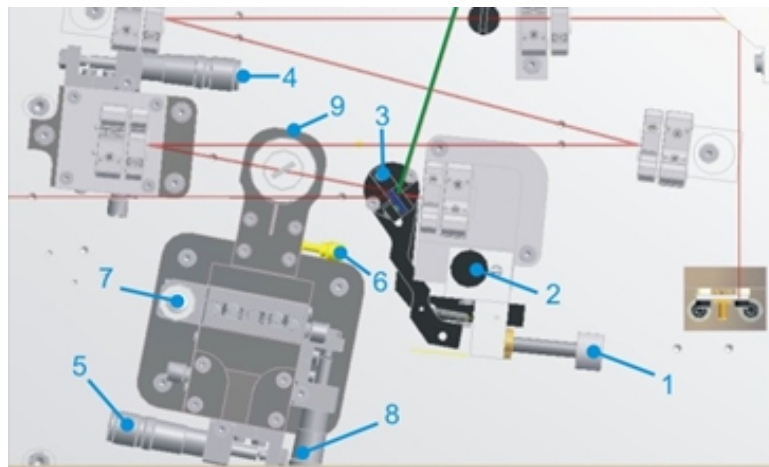

Figure B.2.: Adjustment elements (except mirror tilts) in the cavity dumper optics unit
1. At the beginning of the basic adjustment of the **Cavity Dumper Kit** the Bragg cell has to be driven 2 mm lower (7 in Figure B.2) and the position of CM2 (4 in Figure B.2) 0.5 mm further apart (smaller numbers) from CM1 than the position expected.
2. The horizontal X- and Y-position of the Bragg cell (controls 5 and 8 in Figure B.2) should be set to center the Bragg cell between CM1 and CM2. The distance between CM1 and CM2 (in case  $r = 100$  mirrors are used) is typically in the range between 102 and 106 mm (depending on your cavity design!) and the Bragg cell centered between both mirrors.
4. Lower CM6 (2 in Figure B.2) so that it does not clip the fluorescence.
8. Check the beam path inside the crystal with an IR viewer and correct the crystal horizontal Y-position (8 in Figure B.2) to center the beam (see B.3).
9. Slowly decrease the distance between CM1 and CM2 while translating CM2 with (4 in Figure B.2) towards the value given in the test protocol while maximizing the output power with CM5 until CW output power is about 100mW. Try to get the laser into mode-locked operation, check with a spectrometer. Mode-locked power is typically about 10 ... 30% higher than CW power. Adjust output coupler CM5 and the other end mirror for maximum mode-locked power. Slightly change CM2 position to look for the most stable mode-locking with good power. You may need to optimize the dispersion of the system.
3. Now adjust the vertical position of the modulator to have the beam at about 1/4 of the modulator height from the transducer. The transducer is located at the bottom of the modulator crystal. Use the vertical position adjustment screw (7 in Figure B.2).
4. While monitoring the aperture slide the crystal horizontally (Y-direction) about 2 mm in each direction from the center position of the beam (8 in Figure B.2) until a spot appears 2 ... 4 mm above the zero order spot. To make sure that this is the first order beam switch off the RF signal (RF ON button). Then the spot must disappear.
5. Switch on the RF signal again and adjust the horizontal modulator position and the Bragg angle by turns to roughly maximize the first order intensity by appearance. (Always readjust the cavity with CM5). **If no diffracted beam can be observed over the whole horizontal adjustment range, slightly change the Bragg angle (6 in Figure B.2) and repeat the above steps.**
7. The out-coupled beam (the first order diffraction on CM6) should be reflected to CM7. To adjust the horizontal tilt of CM6 use (1). Adjust CM7 and CM8 so that the deflected beam leaves the cavity dumper through the Brewster window BW.
8. Take a sheet of paper and monitor the output beam profile at a distance of about 1 m. Slightly adjust the horizontal X-position of the modulator (8 in Figure B.2) until only one round spot is to be seen (and not two spots one above each other).
9. Place a laser power meter into the deflected beam. To maximize the diffraction efficiency the horizontal (8) and vertical (7) crystal position must be adjusted by turns, as well as the Bragg angle (6) of the crystal. The vertical position should be adjusted to let the beam pass the crystal as close as possible to the transducer at the bottom of the crystal. (Always correct the cavity alignment with CM5). After having maximized the power of the diffracted beam in CW mode the **Cavity Dumper Kit** must be optimized for pulsed operation. In order to do this monitor the intracavity pulse train with a fast oscilloscope terminated with  $50\ \Omega$  by connecting the fast photodiode output of the **Cavity Dumper Kit** with the SEED input and the oscilloscope with the SEED MONITOR of the electronics unit (see previous section). Trigger the oscilloscope with the PULSE MONITOR output signal of the **Cavity Dumper Kit**.